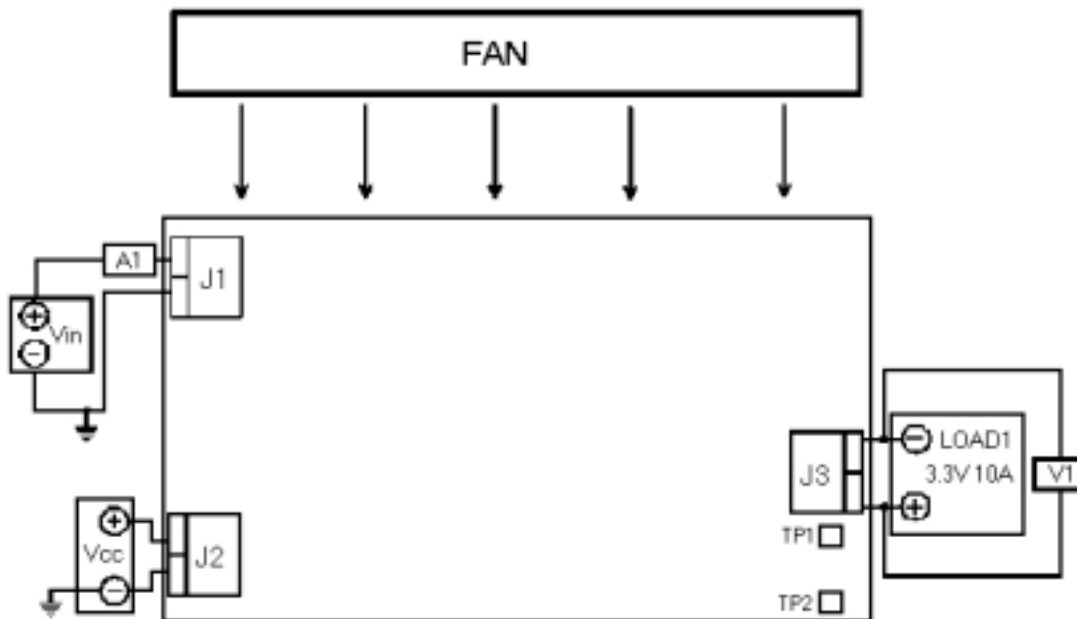

Figure 2. Recommended EVM Test Configuration
Testing and evaluation of UCC35705EVM requires two dc voltage supplies ( $V_{IN}$  and  $V_{CC}$ ) and an output load (LOAD1) as shown in Figure 2. Note that the primary side ground J1 and J2 is isolated from the secondary side ground (J3) and J3 has the opposite polarity of J1 and J2. Loop test points TP1 ( $V_{OUT}$ ) and TP2 (Feedback) are connected by a 50- $\Omega$  resistor and allow the user to connect a network analyzer for loop response evaluation.
UCC35705EVM is not designed with self-biasing circuitry and requires an external bias supply to provide power to the PWM and driver circuitry.  $V_{CC}$  is a variable dc voltage source capable of supplying between 0  $V_{DC}$  and 12  $V_{DC}$  at no less than 300 mA.  $V_{CC}$  is connected to J2 as shown in Figure 2.
The input voltage source is a variable dc source capable of supplying between 0  $V_{DC}$  and 72  $V_{DC}$  at no less than 1.5  $A_{DC}$ , and connected to the input terminals (J1) as shown in Figure 2. For fault protection to the EVM, it is good common practice to current limit the source to no more than 2  $A_{DC}$ . A dc ammeter (A1) inserted between the input source ( $V_{IN}$ ) and input terminals (J1) ensures accurate input current readings.
2. Set  $V_{CC}$  supply to 0 V and connect  $V_{CC}$  to J1 as shown in Figure 2.
4. Connect LOAD1 and the voltmeter, V1 to J1 as shown in Figure 2. Set LOAD1 to constant current mode to sink 0 ADC before  $V_{IN}$  and  $V_{CC}$  are applied.